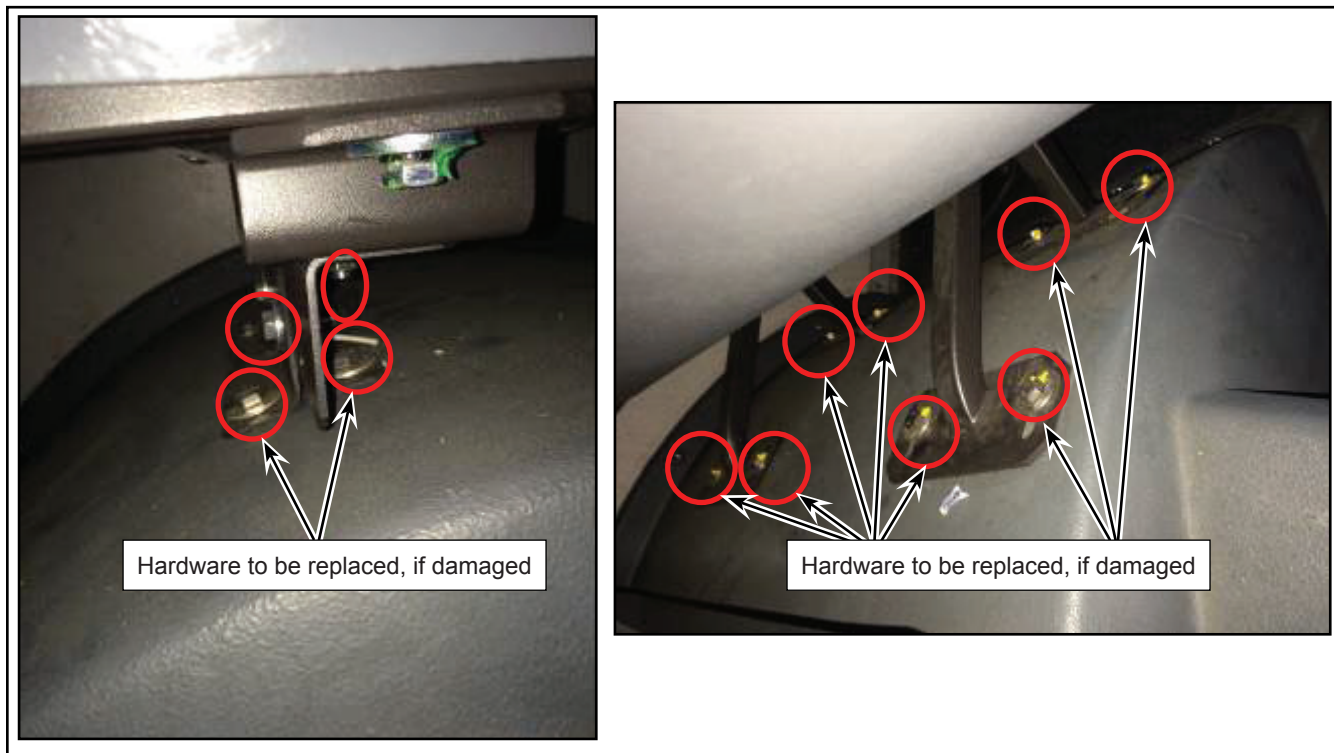

Figure 24 - Installation of Damaged Hardware
2.23. Replace the damaged hardware with new hardware provided (see Figure 24).